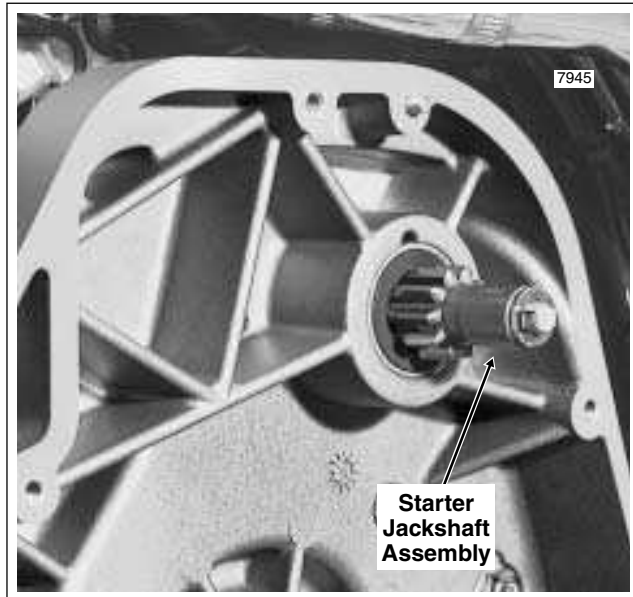

Figure 5-21. Primary Chaincase
3. See Figure 5-21. Remove the primary chaincase cover. Remove the clutch assembly, primary chain and compensating sprocket components as a single assembly. See Section 6.5 PRIMARY CHAINCASE, REMOVAL, steps 3-15.